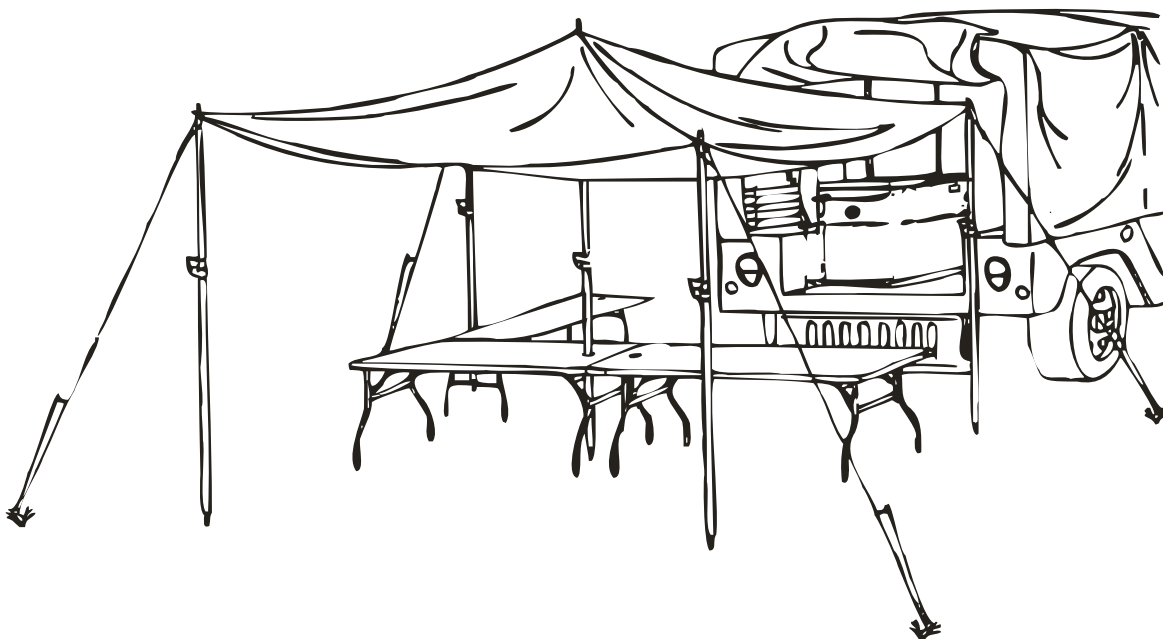

Figure 3-1. Serving Line Setup
(1) During wet weather conditions, pitch the rain cover.
(2) Set up tables by lifting the table clamp, removing tables from the HMMWV, and assembling as shown in figure 3-1.
(3) Install the stainless steel Edlund can opener in a mounting bushing, which must be placed in the opening on a table end (the shank on the stainless Edlund is smaller than the shank on the regular Edlund, for which the hole in the table is sized). Place the following items on the tables: disposable mess gear, beverage containers, and supplements.